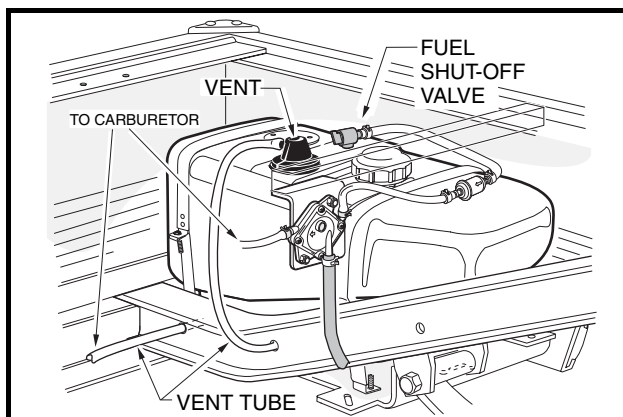

Figure 20 Fuel Tank – 272 Vehicle
- If the vehicle has an all-weather enclosure installed, be sure the fuel tank is properly vented as shown (Figure 20).